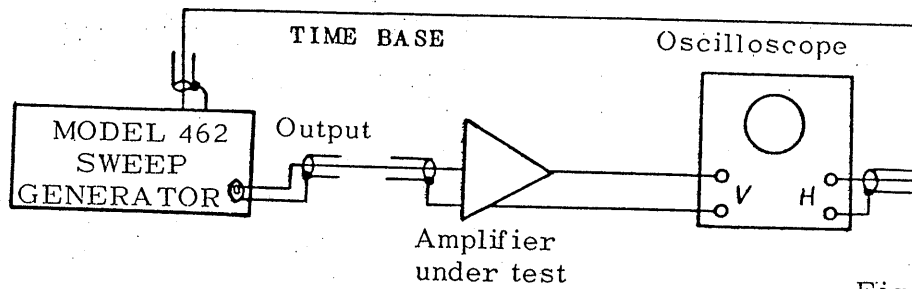

Fig. 3-3
7. Connect Model 462, the oscilloscope and the amplifier to be measured as shown in Fig. 3-3